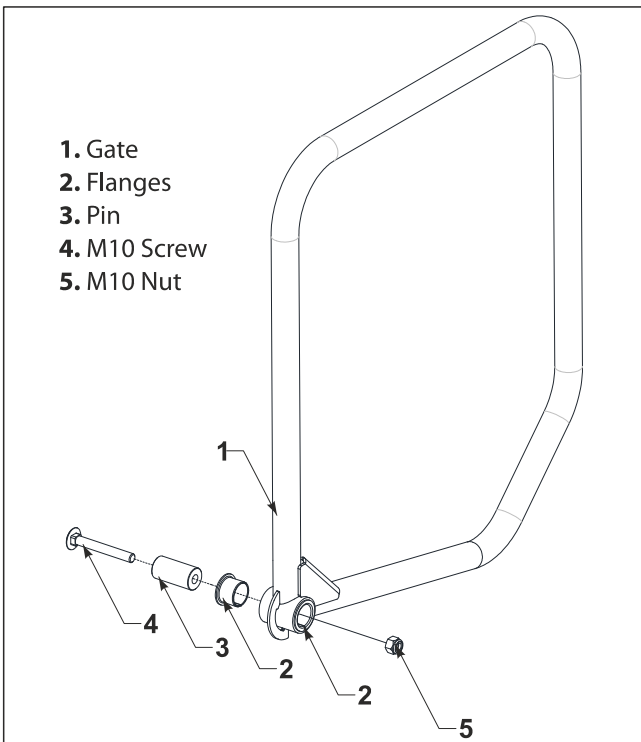

Figure 6-8. Gate disassembly
Platform gates (1) see Fig. 6-8 are mounted on flanged bushes (2). To dismount a gate, remove gate switch, then loosen M10 nut (5). Refer to § 8.2.6 for more information.